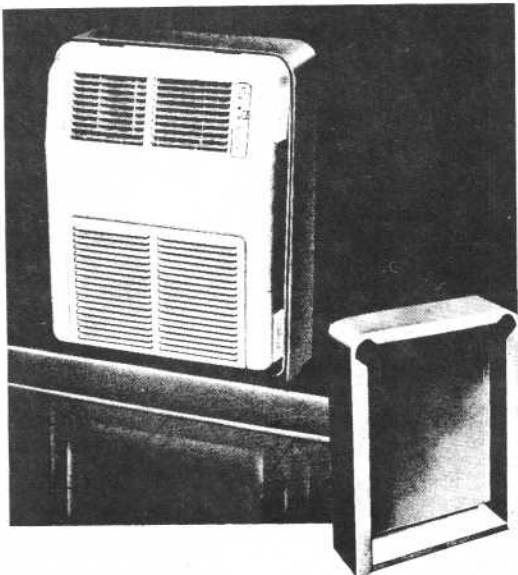

Figure 13 - SelectTemp Unit Installed in Free-Standing Frame
h. **FREE STANDING FRAMES** - These adapters provide a metal frame, 5" in depth and about 1/2" larger than the unit in length and width. The bottom of the frame is open as shown in Figure 13.
If units are to be recessed in solid masonry walls, wooden frames with dimensions as shown in Figure 17 may be pre-fabricated and set into the wall, or the free standing metal frame Figure 13 may be used in the same manner. Where units are not recessed, the free standing frame may be fastened directly to the wall surface.